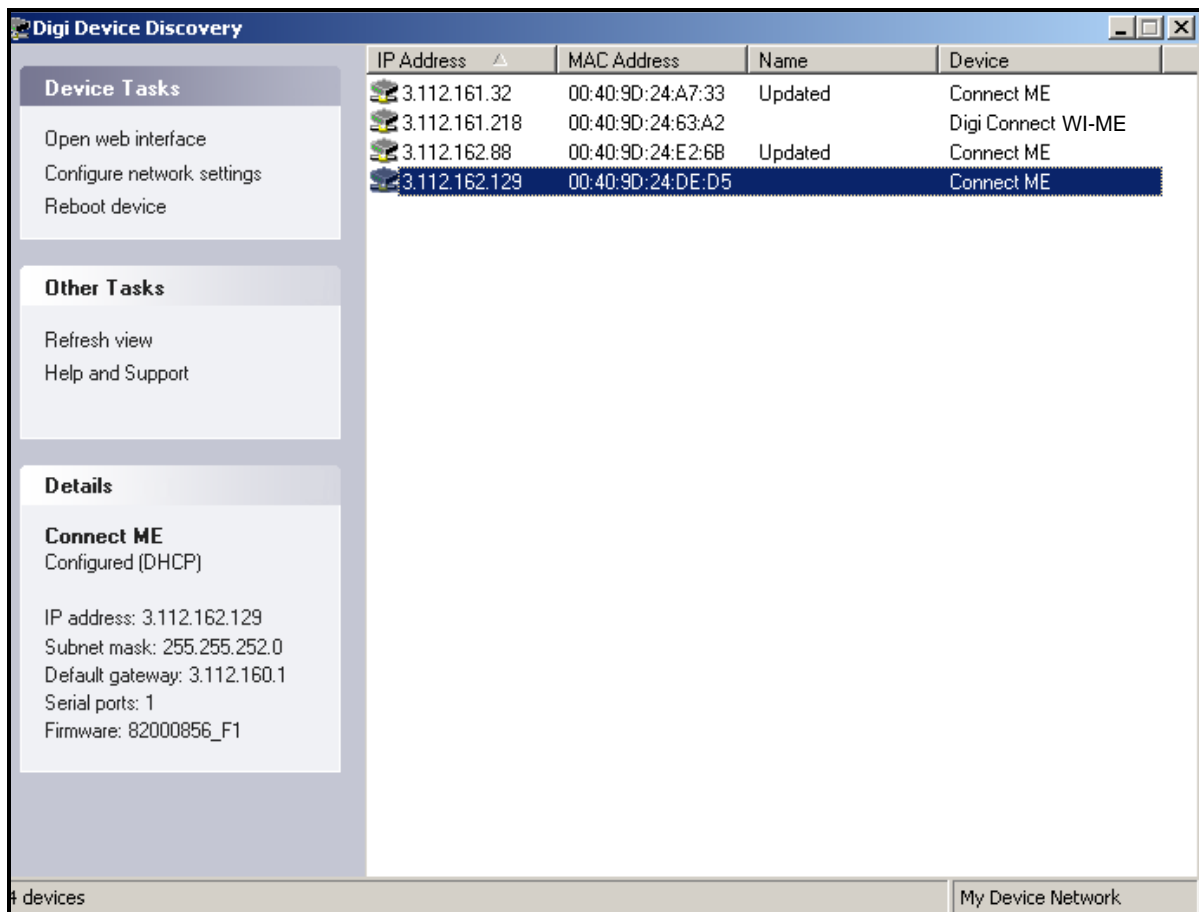

Figure 30: Finding the Assigned IP Address
1. Run the *Digi Device Discovery Program* (see Figure 30).